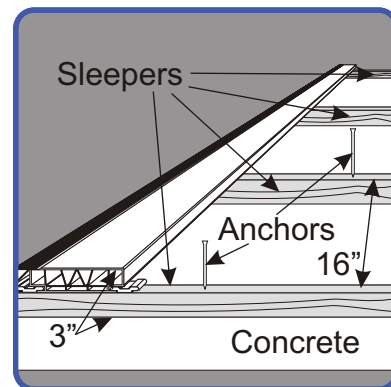

Figure 13
**Step 1.** Anchor 2" • 2" pressure treated wood sleepers to the concrete surface using hammer anchors or masonry screws (see Figure 13). The sleepers perform a similar function to elevated deck joists and should be spaced 16" on center. If using masonry screws, countersink the screws flush with the top of the sleepers.